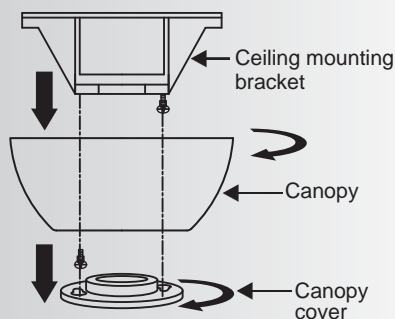

Fig. 8
Step 1. Remove the decorative canopy bottom cover from the canopy by turning the cover counterclockwise. (Fig. 8)
Step 2. Remove the ceiling mounting bracket from the canopy by removing (and save) one of the two screws. Loosen the remaining screw by a half turn. (Fig. 8)